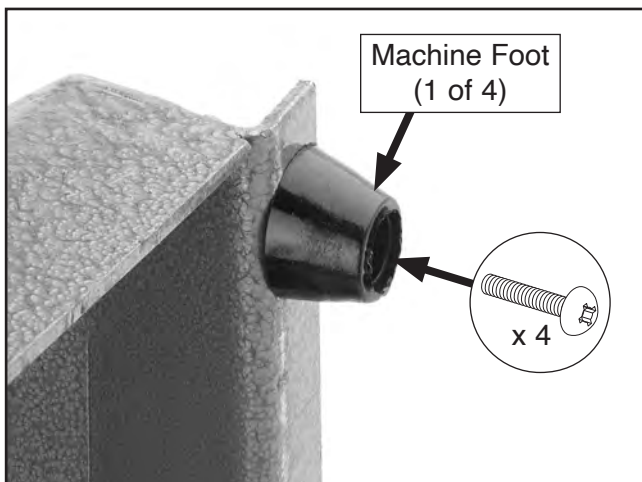

Figure 15. Machine foot installed on base.
2. Install (4) machine feet on bottom of base with (4) 10-24 x 5/8" Phillips head screws (see **Figure 15**), then stand machine upright.